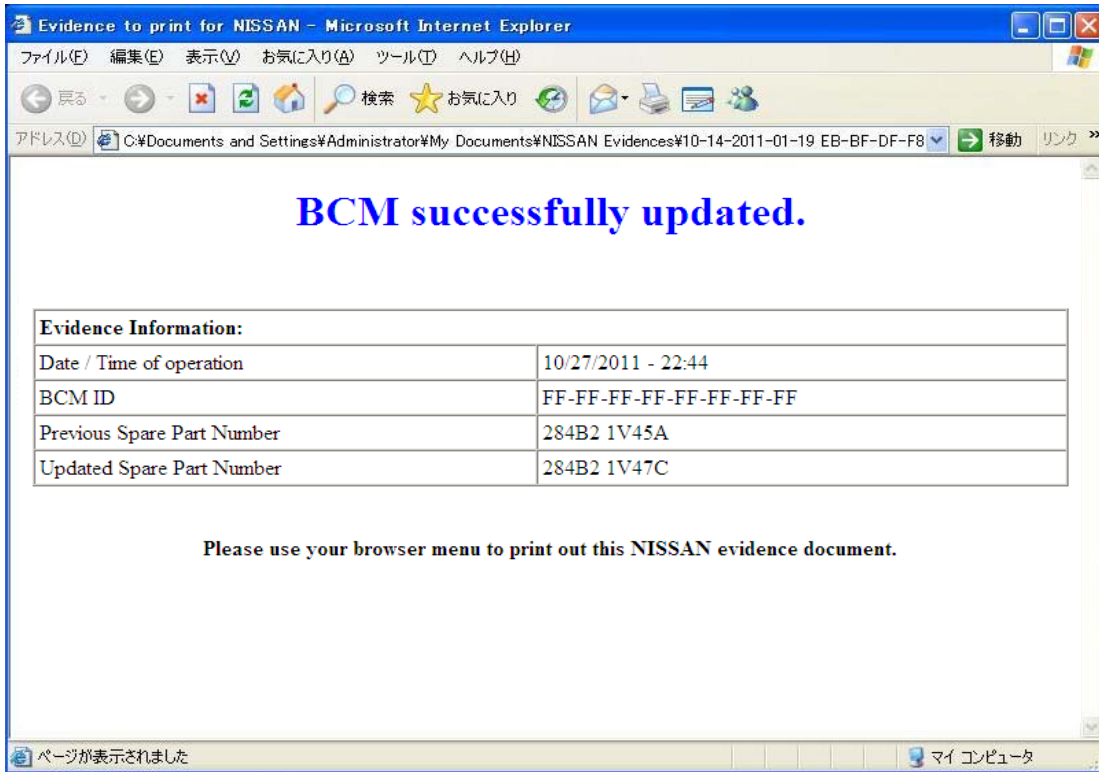

Figure 6
NOTE: When OK is selected, Internet Explorer will automatically launch and the screen in Figure 6 (shown on the next page) will display.
17. Print the Internet Explorer screen shown in Figure 6 and attach a copy to the repair order.